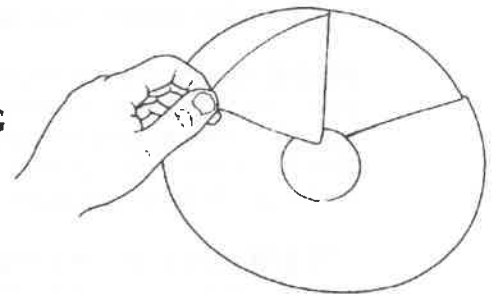

Fig. 3
2. Peel the backing from the sandpaper, as in Fig. 3.